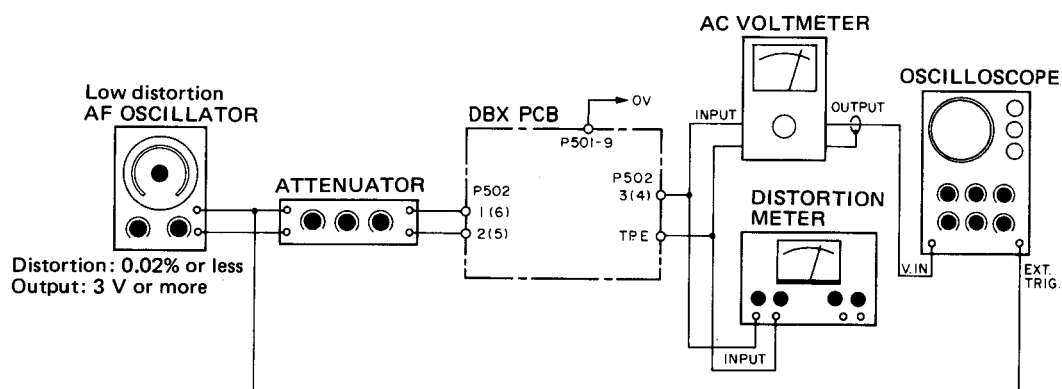

Fig. 5-15
2. Make the Fig. 5-15 connections, then feed a 1 kHz/-8 dB (308 mV) input signal to the INPUT terminal. Adjust R55/R65 (DECODING LEVEL) so that AC voltmeter reads -8 dB (308 mV).
3. Check that when the input signal is 100 Hz/-8 dB (308 mV), then 10 kHz/-8 dB, the output signal from 3(4) terminal (OUTPUT) deviates by -1 dB \pm 0.5 dB, then +5 dB \pm 0.5 dB from -8 dB (reference), respectively.....so that output, as a voltage value, should be 652 mV to 731 mV for 100 Hz, and 1.30 V to 1.46 V for 10 kHz.